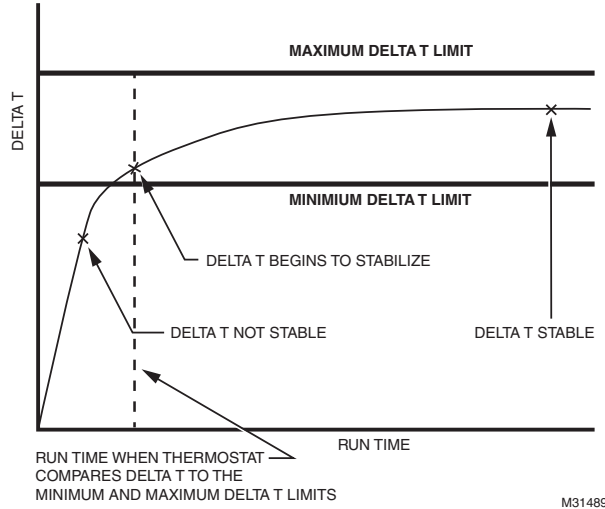

Fig. 52.
2. In gas or oil forced air systems, Delta T will continue to rise for several minutes even after Delta T begins to stabilize. Be sure the Maximum Delta T Limit is set higher than the expected stable Delta T. See Fig. 52.